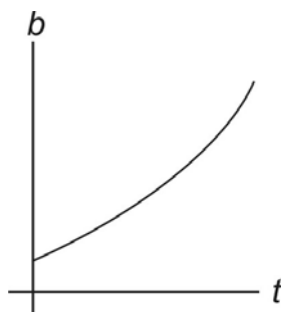

Figure 1: The amount of bacteria in a colony with time
- The growth rate of a colony of bacteria, given enough resources, is directly proportional to the size of the colony at that particular time. That is, the amount by which they change per unit time, or db/dt , becomes more as the amount of bacteria that is present increases, or $db/dt \propto b$. This is evident in the fact that the gradient of the graph of the amount of bacteria present as a function of time increases as the amount of bacteria increases - see figure 1. The proportionality constant is the growth rate, r , of the colony (which is constant). We incorporate the growth rate as follows into the exponential function